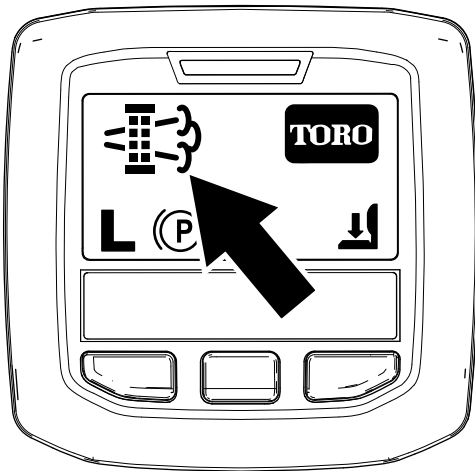

Figure 44
- When the engine computer requests either a parked regeneration or a recovery regeneration, the regeneration request icon (Figure 44) displays in the InfoCenter.